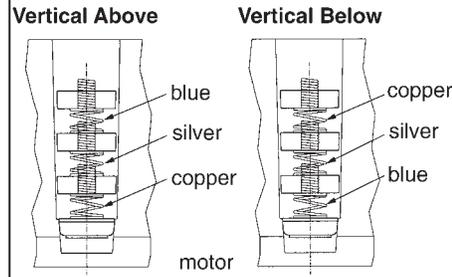

Figure 3C
C) 20-25 lb-ft vertical mounting. Above motor orientation, install first friction disc followed by the stationary disc with the copper springs; second friction disc; stationary disc with silver springs, followed by the third friction disc then the final stationary disc with the blue springs. See Figure 3C.
For vertical below orientation reverse the order of the stationary from the vertical above procedures. See Figure 3C.